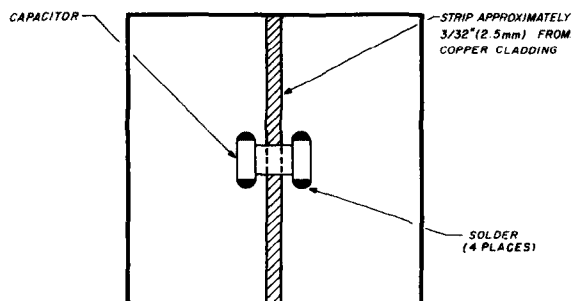

fig. 1. Leadless mica capacitor soldered onto copper-clad circuit board material minimizes series lead inductance.
fig. 1. Cost efficiency obtained when increasing power-amplifier output. Best cost efficiency, in terms of costs of energy, components, insurance, space, and weight of the linear amplifier, occurs when amplifier output is about three times that of the exciter. In other words,  $P_2 = 3P_1$  where  $P_2$  and  $P_1$  are the amplifier output and input power respectively.
where costs increase proportionally to power level. Fig. 1 shows that the cost efficiency curve rises, levels off, and falls as a function of amplifier power. This is because of (a) the increasing costs that accompany an increase in power, and (b) the progressively smaller *incremental* increases in dB. Each additional dollar spent in power increases results in smaller and smaller signal increases. At some point the dB increase becomes insignificant but the costs continue to rise, resulting in reduced efficiency (for  $P_1 = 100$  watts):
An examination of fig. 1 shows that optimal cost efficiency occurs when the linear amplifier output is approximately *three times* that of the exciter. Because we're speaking of the ratio of two power levels, optimal amplification of three times exciter input is true for all power levels.
1. Prepare one side of a small piece of double-sided copper-clad board as shown in fig. 1.
Given a frequency counter and a calculator with buttons for square, reciprocal, and  $\pi$ , there's an easy way to measure inductance in terms of a known capacitance, or a capacitance in terms of a known inductance. Fig. 1 shows a complete setup for this
fig. 1. Arrangement for measuring inductance or capacitance in terms of known values. E, B, C refer to emitter, base and collector of a transistor pair. Plug equation into a calculator to determine the unknowns. Frequency is measured with a counter.